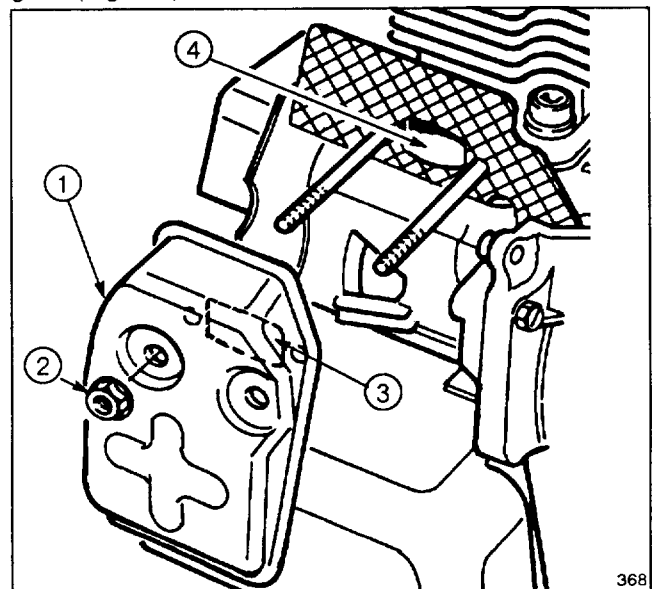

Figure 16
1. Engine cover                      2. Screws (2)
2. Remove two (2) nuts securing muffler to engine (Fig. 16). Remove muffler.
3. Clean any carbon build-up from muffler port (Fig. 16).
4. Pull recoil starter slowly to rotate the engine crankshaft until the piston totally covers the exhaust port (Fig. 16). Clean the exhaust port area by using a clean, flat piece of hard wood. Remove all loose particles.